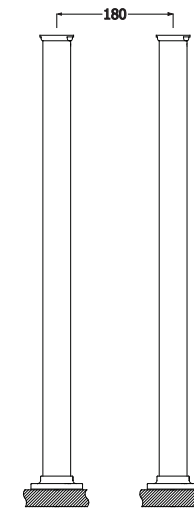

Fig. 2
- Install the legs into the floor using screws* and sleeves* as shown in Fig. 2;